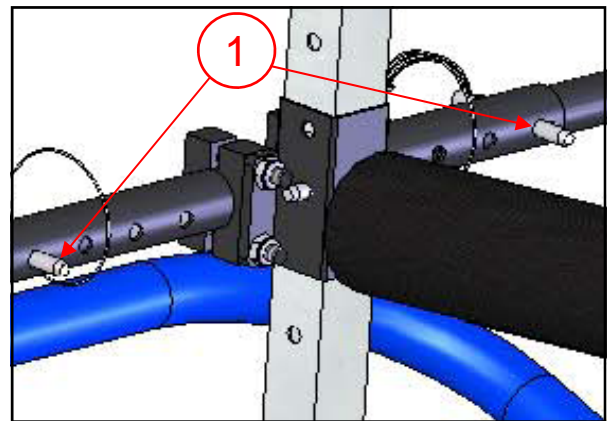

Figure 19A
1. Mounting: Hand holds with arm troughs are mounted on the back of the sit bar (3). Secure the arm troughs to the sit bar with the four Allen screws and lock nuts. Figure 19A. It is easiest to mount with the sit bar removed from the column.
2. Width: The width is adjusted by removing the ball lock pins (1) on the cross bar and sliding the tubes inwards or outwards. Figure 19A